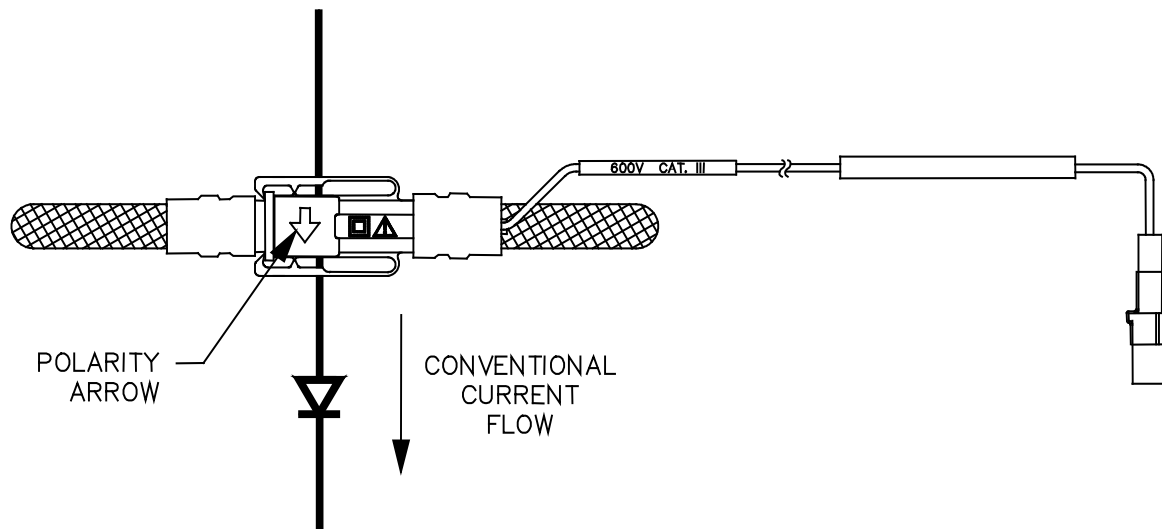

Figure 5.1
- A. Place current transducers on device paths in the proper direction (conventional plus-to-minus current flowing in the same direction as the polarity arrow). Proper Current Transducer mounting is shown in Figure 5.1. The RCEM will not sync the reset pulse to the diode waveforms if the transducers are reversed.